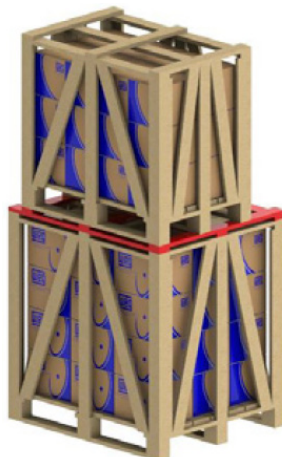

Figure 5.5: Use of additional battens for stacking
4) When stacking smaller crates onto longer crates, always ensure that suitable wooden supports are provided to withstand the weight (see Figure 5.5 on page 30). This condition usually occurs with motor packaging above IEC 225S/M (NEMA 364/5T) frame sizes.